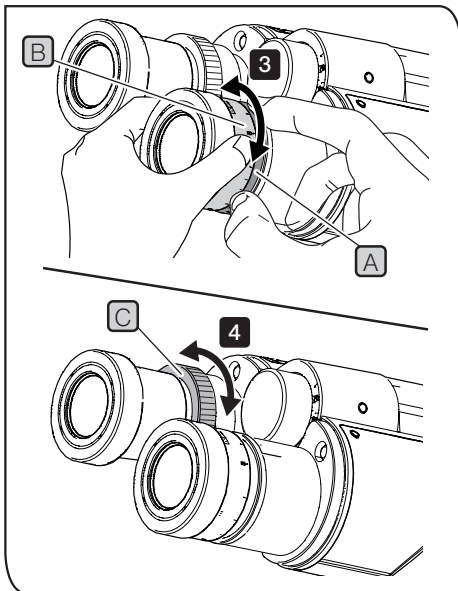

Fig.31
**1 Adjusting the diopter (Fig.31)**
- 3 Engage a low-power objective (10X or so) in the light path, use your hand to hold the base of the eyepiece (A), and rotate only the diopter adjustment ring (B) to bring the specimen into focus. Do not touch the coarse and fine adjustment knobs during the focusing.
- 4 Looking into the left eyepiece with your left eye, rotate the left diopter adjustment ring (C) to bring the specimen in focus